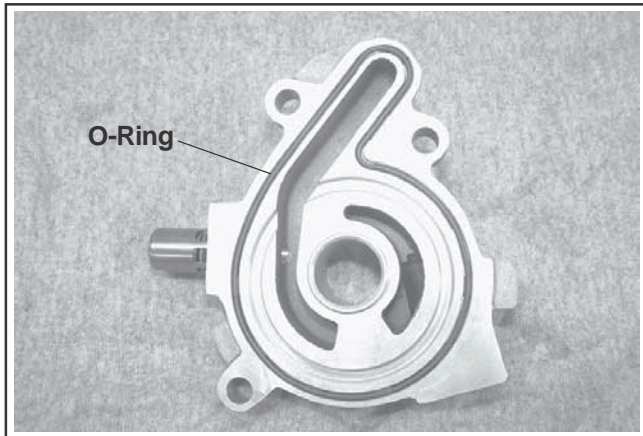

Figure 9-16. O-Ring Installed in Oil Pump Housing.
4. Install the O-Ring in the groove of the oil pump housing. Use a small quantity of grease to hold it in place. See Figure 9-16.